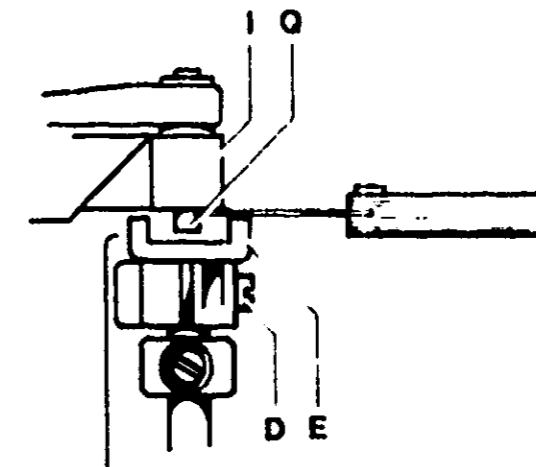

FIGURE 34
- Turn machine on and program it for maximum zigzag width. Manually rotate handwheel toward you through one complete zigzag cycle while observing pivot (O) and limiting devices (E). The clearance between the pivot and each stop should be equal (Figure 34). Check the clearance between tip of both stops and needle bar support using feeler gauge. The correct clearance will be .020-.032 inch. If adjustment is required, loosen screw (D) and reposition limiting device (E). NOTE: Be sure pivot does not hit or bind on limiting device (E).